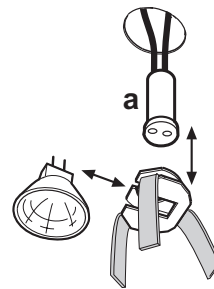

Fig. 5
- Extract the lamp, the lamp support and its connector **A**, carefully use a flat bladed screwdriver as a lever. **Fig. 5.**